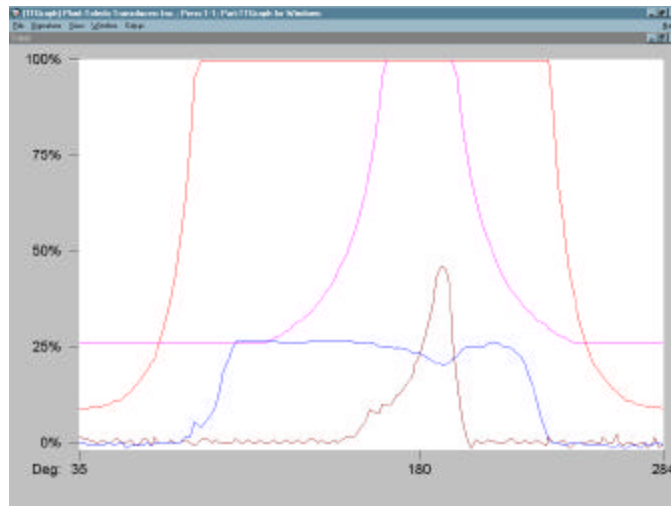

Figure 16: Scale To Fit.
2. This scaling will allow you to see the signatures and press curves in maximum scale. (See Fig. 16).